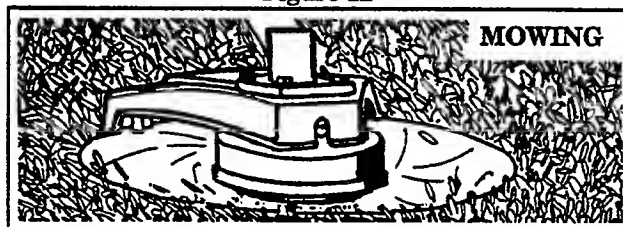

Figure 13
3. **MOWING** – Figure 13. Your trimmer is ideal for mowing in places conventional lawn mowers cannot reach. In the mowing position, keep the line parallel to the ground. Avoid pressing the head into the ground as this can scalp the ground and damage the tool.